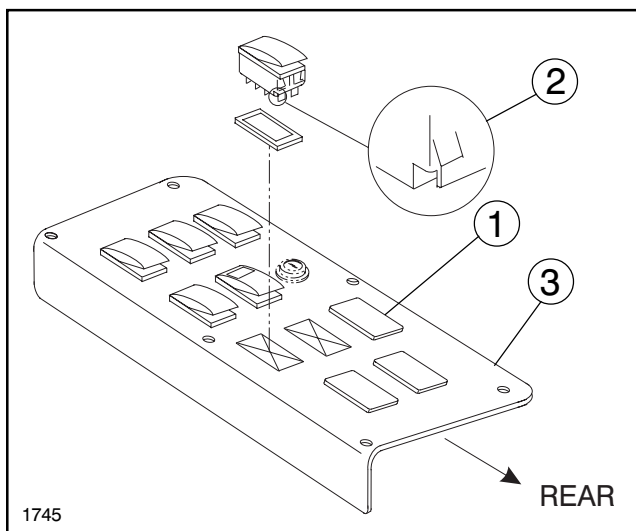

FIG. 7
e. Lift and remove the two plugs from the Vehicle's Spray Control panel and install the two Rocker Switches provided in their place. Ensure their orientation matches the orientation shown in FIG. 7, with the cutout notch to the rear of the vehicle. This notch indicates the end of the switch to which the locking Arm will mate.